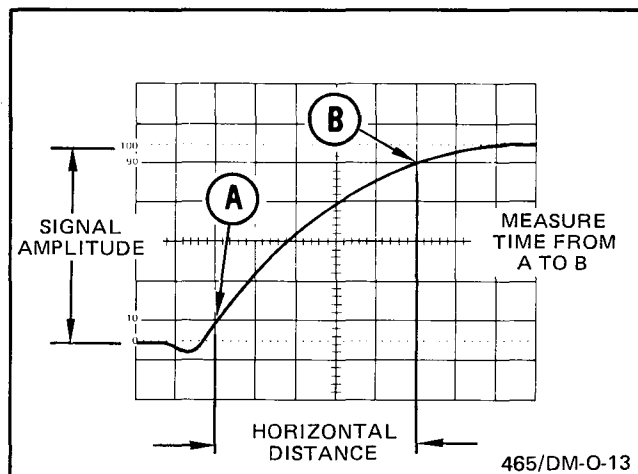

Fig. 2-13. Risetime.
2. Adjust the vertical POSITION control so that the display bottom just touches the 0% graticule line and the display top just touches the 100% graticule line (see Fig. 2-13).
3. Measure the horizontal distance (divisions) between the 10% and 90% points on the waveform (point A to point B, Fig. 2-13).